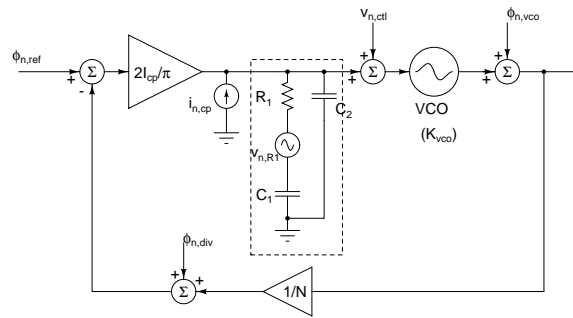

Figure 2:
- Construct the linear model of the PLL using an XOR phase detector as shown in Fig. 2. Compute the transfer functions from $\phi_{n,ref}$, $\phi_{n,vco}$, $\phi_{n,div}$, $i_{n,cp}$, $v_{n,ctl}$, $v_{n,R}$. They respectively model the phase noise of the reference, the vco, and the divider, noise from the charge pump, noise injected into the control voltage node of the vco, and noise from the loop filter. What are the dimensions of each of these transfer functions?